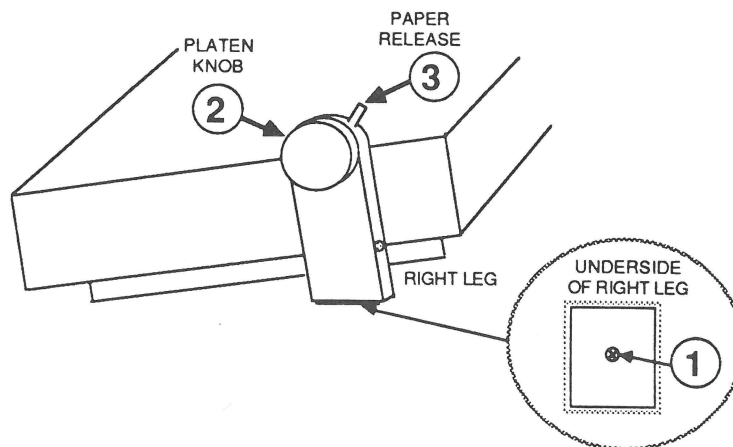

FIGURE 15
3. Remove the Phillips screw at the base of the right leg (Figure 15, #1).
4. Turn the machine right side up. Grasp the platen knob and gently pull it off (Figure 15, #2).
5. Slide the paper release lever off (Figure 15, #3).
4. Slide the paper release lever on (Figure 15, #3).
5. Line up the platen knob and push it into position (Figure 15, #2).
6. Turn the machine upside down and replace the Phillips screw (Figure 15, #1).